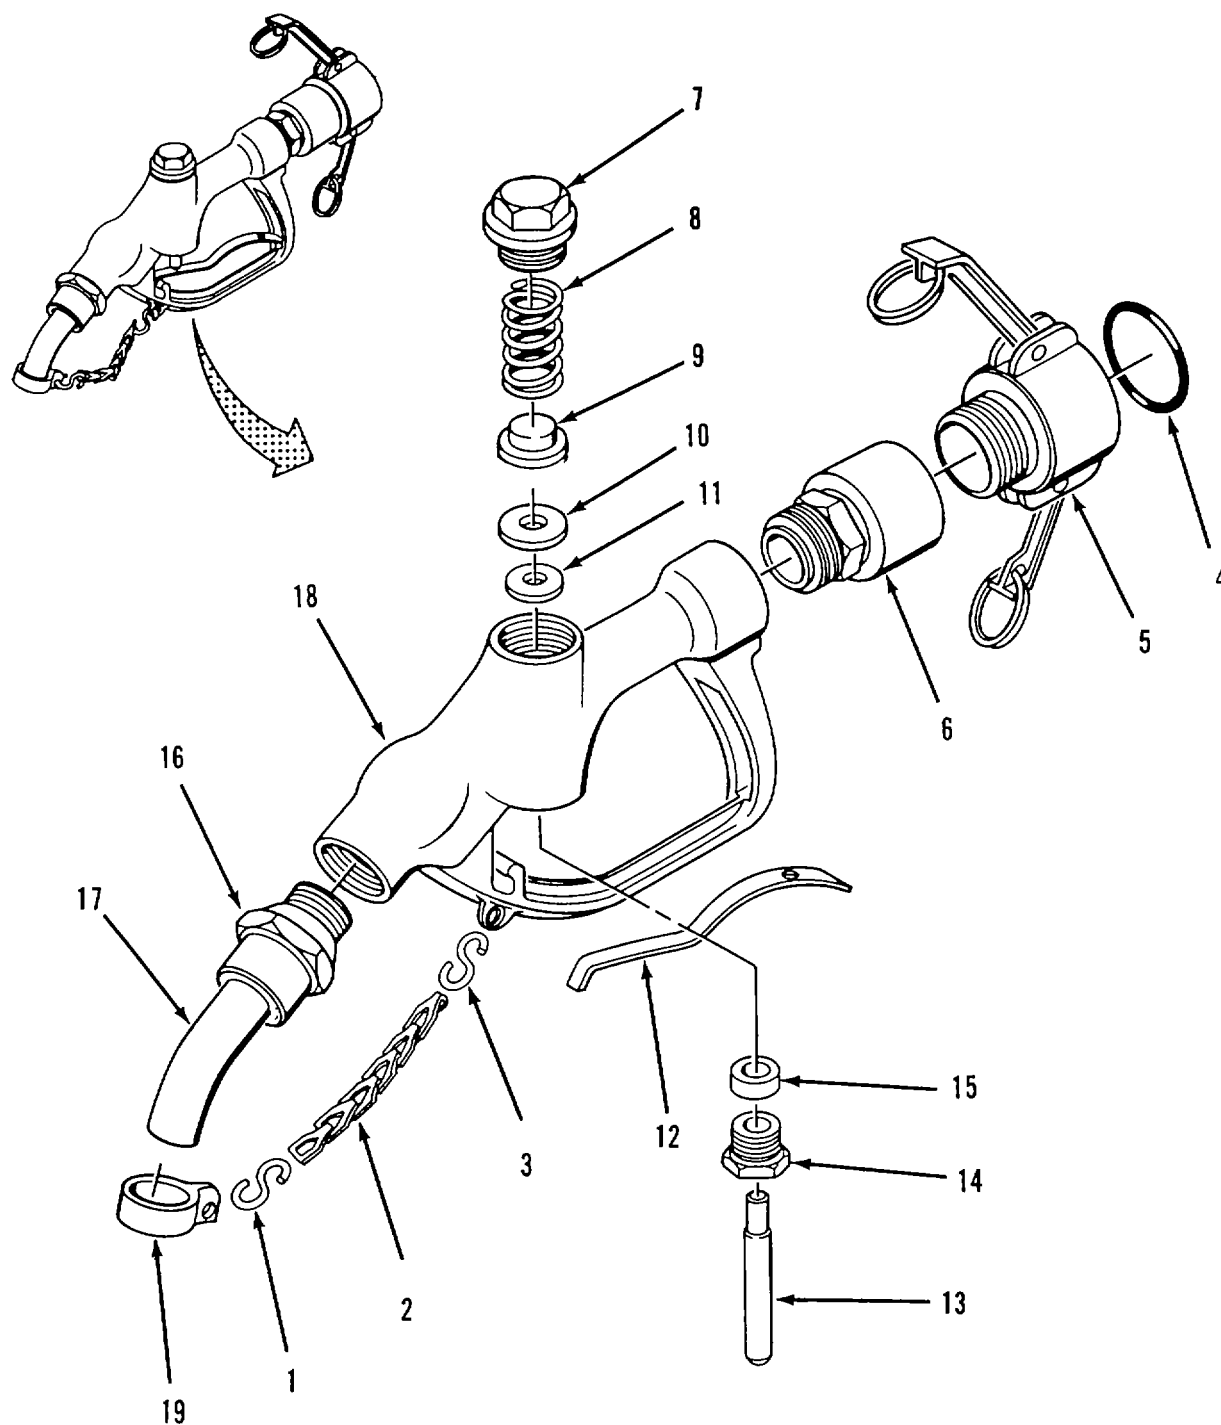

Figure 4-8. Distribution Nozzle (1-Inch) Disassembly
a. Disassembly. Refer to figure 4-8
- (1) Disconnect S-hook (1) and remove cap (19) from chain (2).
- (2) Disconnect S-hook (3) from body (18) and remove chain (2).
- (3) Remove gasket (4) from coupling half (5).
- (4) Remove swivel (6) and coupling half (5) from body (18).
- (5) Unscrew coupling half (5) from swivel (6)